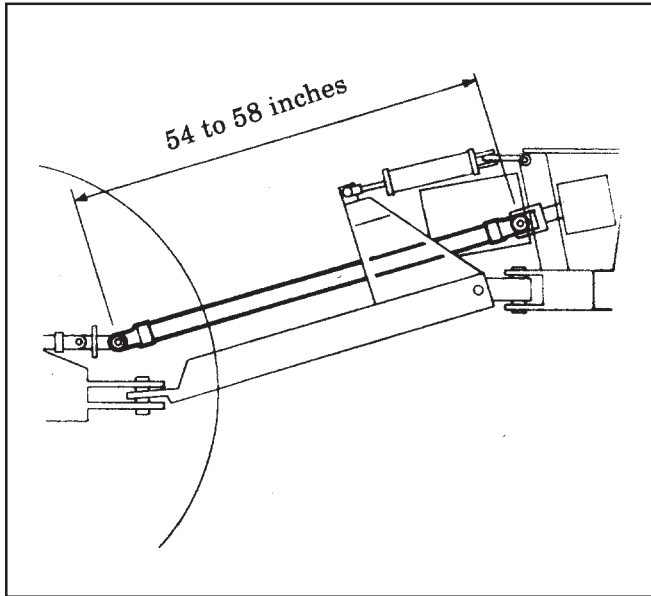

Fig. 2 PTO DRIVELINE DIMENSIONS
1. With the tractor and defoliator on level ground, the correct PTO driveline dimensions should be 54 inches as measured from the centers of the end crosses (See Fig. 2).